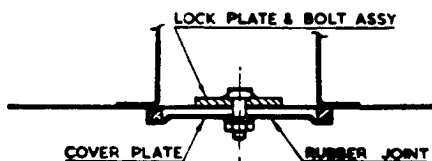

FIG. 7. MODIFIED DUCT COVERS.
- 10) Refit the wooden fascia panel, and recheck the control knob position. With the stop valve fully closed this knob should correspond with the existing Demister Switch (M) when this is in its "OFF" position. Adjust the inner cable, if necessary, to give this requirement.
- 12) Remove the electrical heating element from the right-hand demister duct below the windscreen, disconnect both wires and withdraw these completely. Remove the existing blanking plate from the left-hand duct, and fit the two modified type cover plates provided. The oblong lock plate with the bolt attached should be first passed through the duct aperture with its length parallel to the fascia board, and then turned at right-angles. The cover plate can then be fitted and secured with the lock nut as shown in Fig. 7.